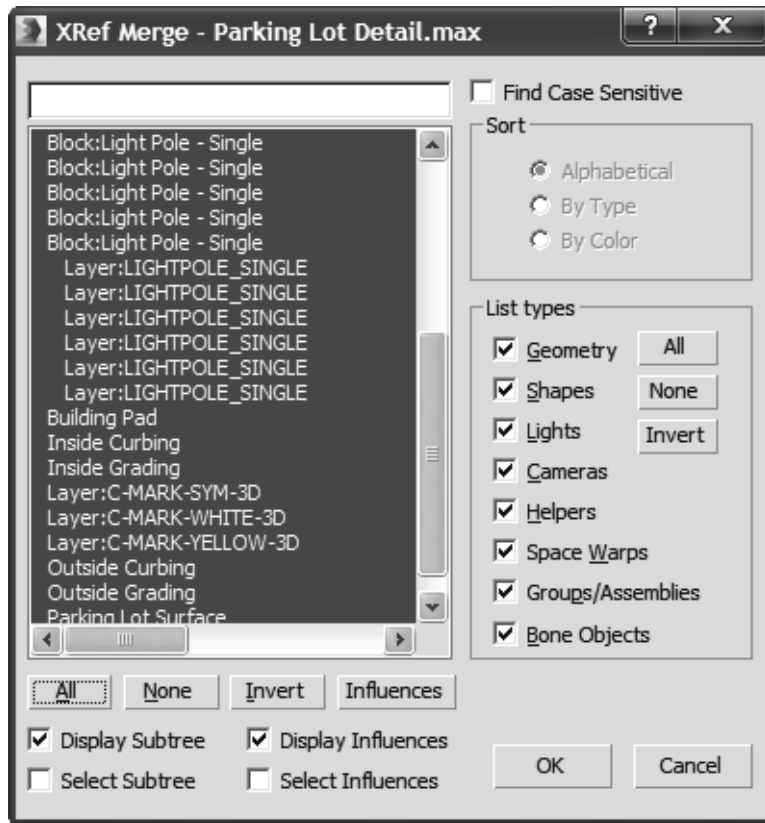

Figure 3–45
11. The Duplicate Material Name dialog box opens prompting you that there is an incoming material with the same name as an existing scene material. Select **Apply to All Duplicates**, as shown in Figure 3–46, to keep both materials and click